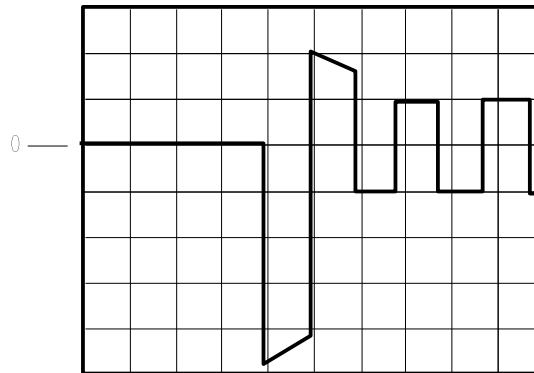

Figure 3
6.2.14 Waveform on scope (BGATE) should look figure 3 below (**see bold print NOTE in 6.2.10**):